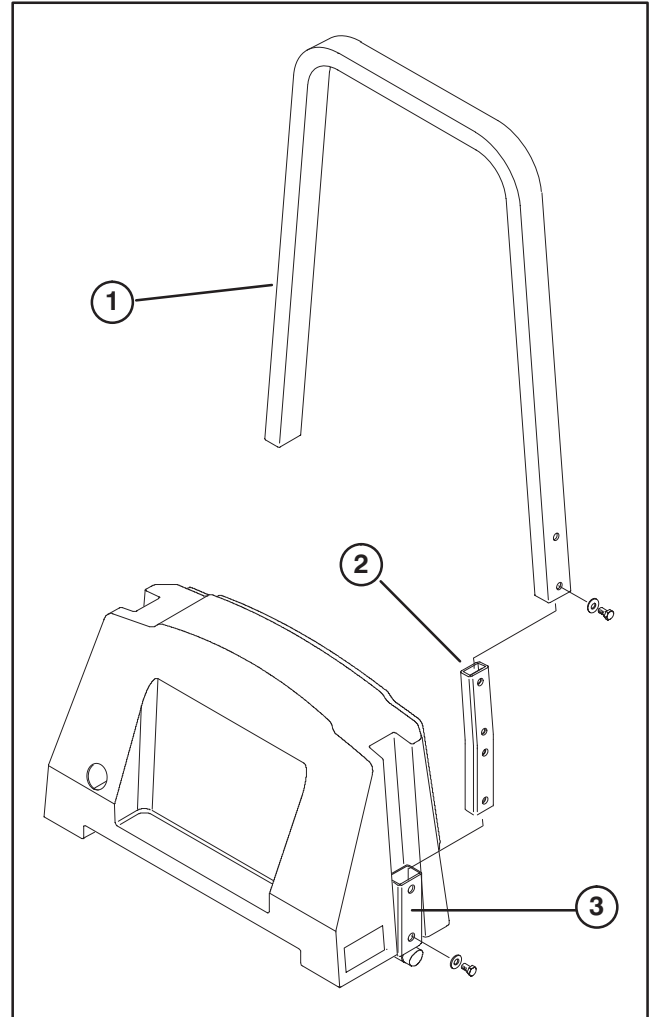

Figure 2
INSTALL ROLL BAR (Fig. 2) Model 30302 only
1. Loosely mount a bar assembly to each end of roll bar with (2) bolts and flatwashers.
2. Lower roll bar into frame holder, aligning mounting holes as shown in Fig. 2.
3. Loosely secure bar assembly to frame holder with (4) bolts and flat washers (Fig. 2).